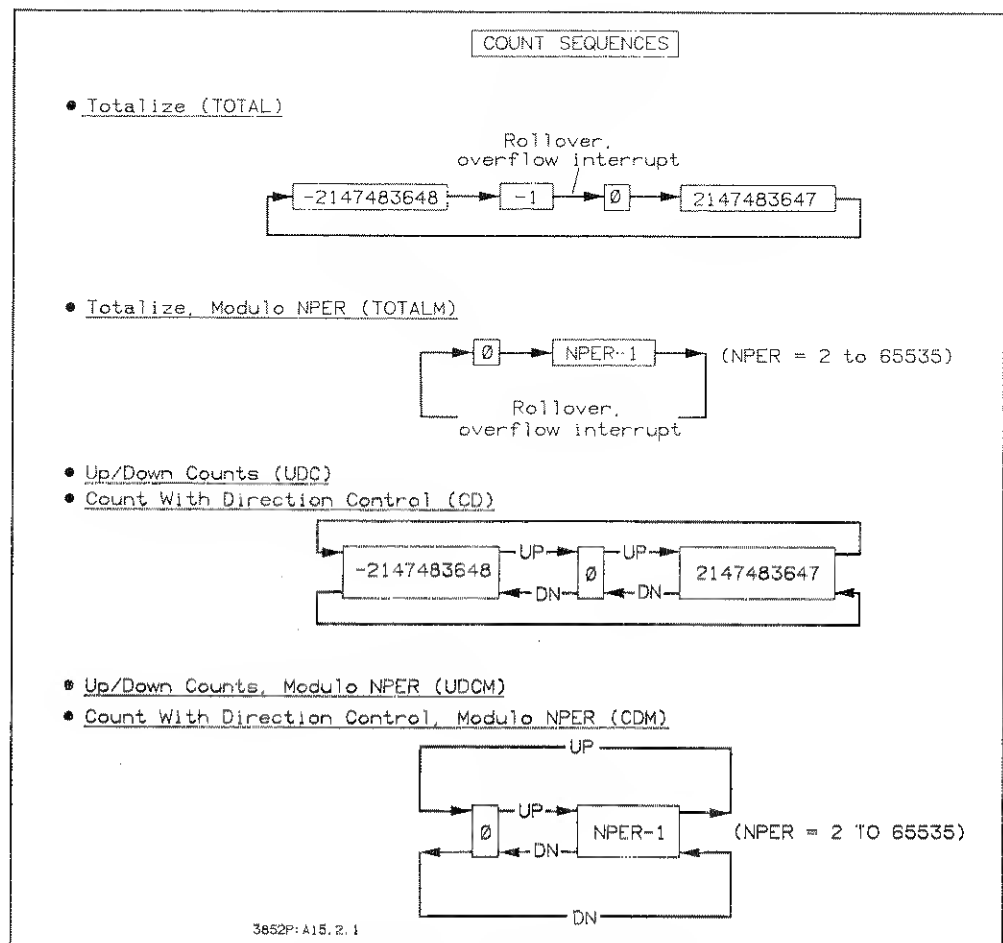
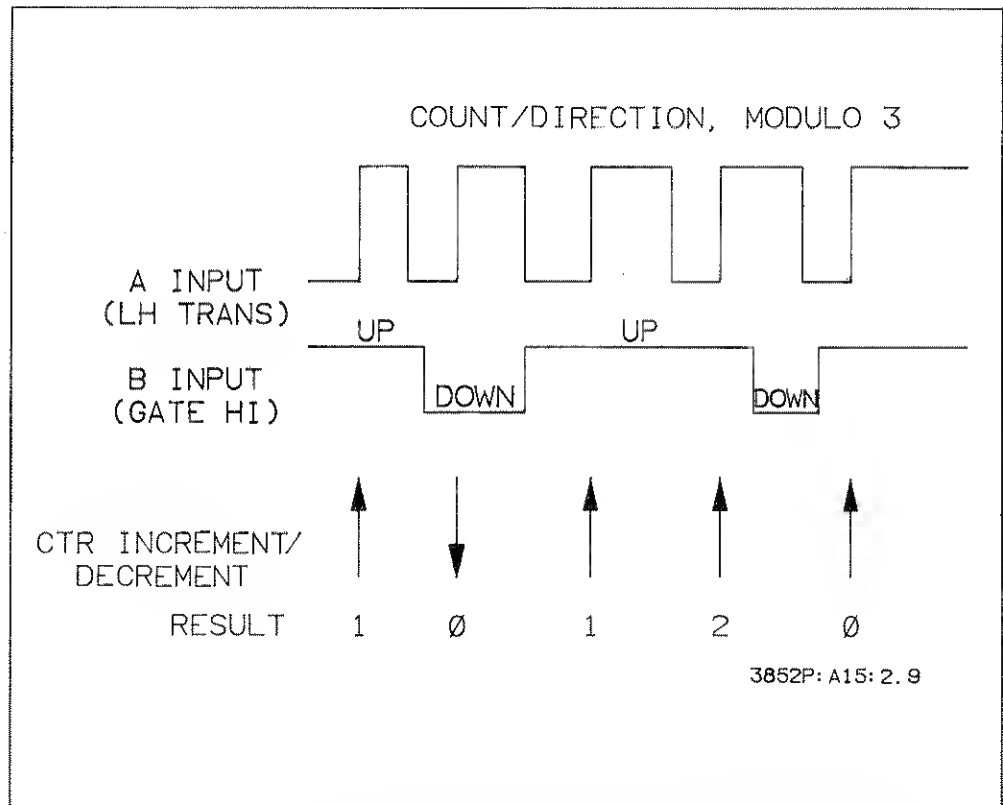
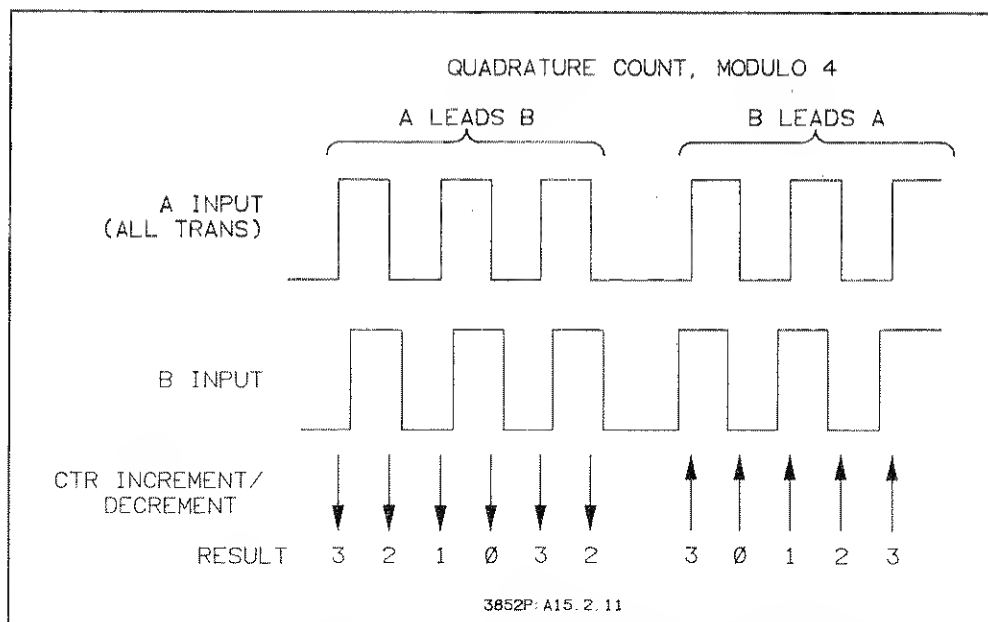

Figure 2-1. Counting Sequences
Figure 2-9. Example: Count/Direction, Modulo NPER (CDM)
Figure 2-11. Example: Quadrature Count, Modulo NPER (CDM)
As noted, the counter has two types of functions: counting and measuring. The counting functions (Totalize Counts, Up/Down Counts, and Count With Direction Control) continuously repeat the count sequence, while the measurement functions perform a one-time measurement. Figure 2-1 summarizes the count sequence for the counting functions.
The count sequence starts at 0. For up counts, the count sequence is from 0 to NPER-1 and back to 0. For down counts, the count sequence is from 0 to NPER-1 to 0 and back up to NPER-1 (see Figure 2-1). Measurement accuracy is  $\pm 1 \text{ count} + \# \text{reversals} / 2$ . Figure 2-9 shows an example sequence with NPER 3 in which LH transitions of the A input are up counts when the B input is high and down counts when the B input is low (B input level is set for HI).
Quadrature Count, Modulo NPER (CDM) is similar to Quadrature Count (CD) except that the count sequence is from 0 to NPER-1 (NPER = 2 to 65535) and back to 0 (see Figure 2-1). Figure 2-11 shows an example of Quadrature Count, Modulo NPER with NPER 4.